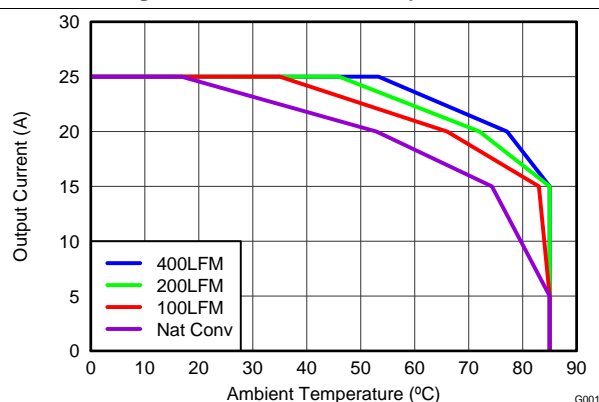

Figure 3. Safe Operating Area – PCB Horizontal Mount
$T_J = 125^{\circ}\text{C}$, unless stated otherwise. The Typical Power Block System Characteristic curves Figure 3 and Figure 4 are based on measurements made on a PCB design with dimensions of 4.0-inches (W) × 3.5-inches (L) × 0.062-inch (H) and 6 copper layers of 1-oz. copper thickness. See Applications for detailed explanation.
$T_J = 125^\circ\text{C}$, unless stated otherwise. The Typical Power Block System Characteristic curves Figure 3 and Figure 4 are based on measurements made on a PCB design with dimensions of 4.0-inches (W) \times 3.5-inches (L) \times 0.062-inch (H) and 6 copper layers of 1-oz. copper thickness. See Applications for detailed explanation.
The SOA curves in the CSD87588N data sheet provide guidance on the temperature boundaries within an operating system by incorporating the thermal resistance and system power loss. Figure 3 to Figure 4 outline the temperature and airflow conditions required for a given load current. The area under the curve dictates the safe operating area. All the curves are based on measurements made on a PCB design with dimensions of 4-inches (W) x 3.5-inches (L) x 0.062-inch (T) and 6 copper layers of 1-oz. copper thickness.